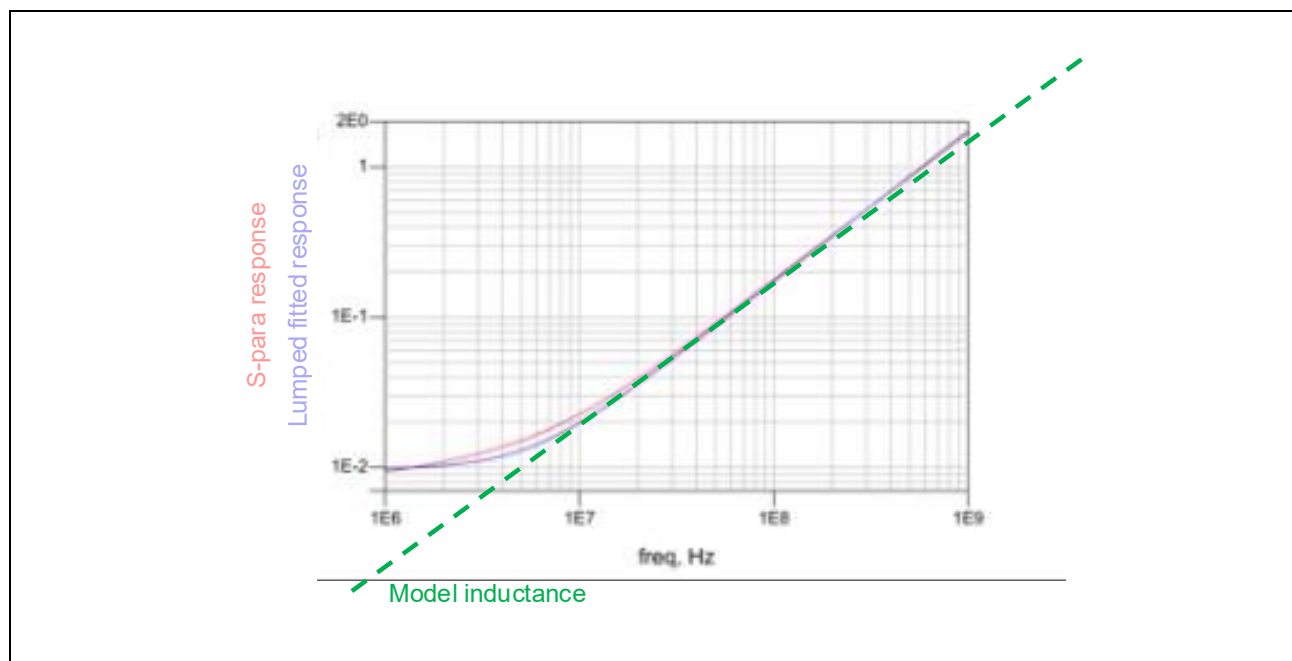

Figure 5.8 Fitted Lumped vs. S-Parameter Model Response
**Figure 5.8** shows the fitted lumped model response compared to the S-parameter model response.